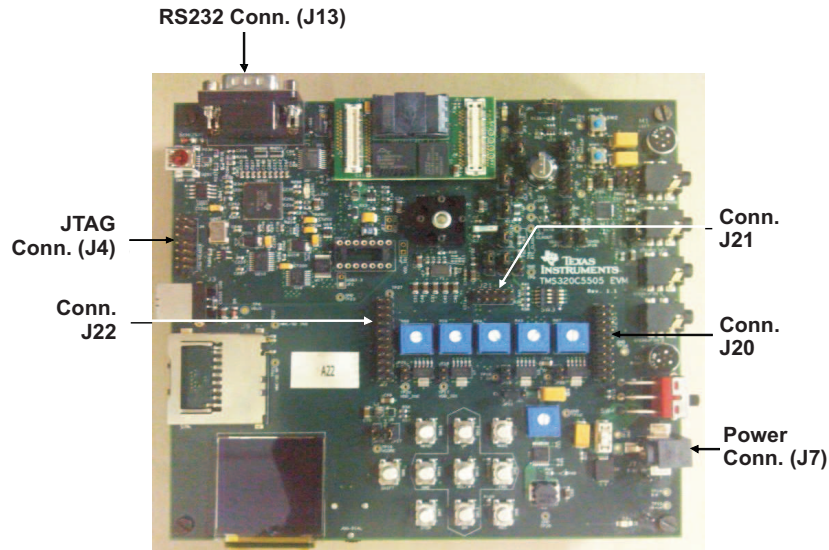

Figure 18. VC5505 EVM Connector Details
1. Mount the ECG front-end board on top of the VC5505 EVM at connectors J20, J21 and J22. Ensure that there is a firm connection between the front-end board and the EVM. Figure 18 shows the connector positions on the VC5505 EVM.